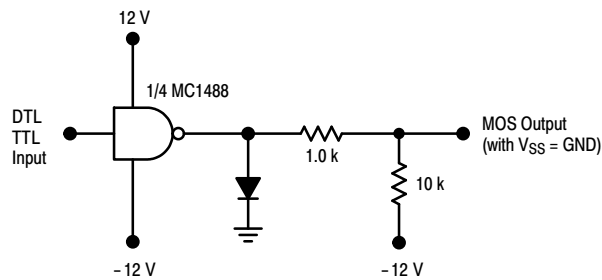

Figure 16. DTL/TTL-to-MOS Translator
1. Output Current Limiting – this enables the circuit designer to define the output voltage levels independent of power supplies and can be accomplished by diode clamping of the output pins. Figure 16 shows the MC1488 used as a DTL to MOS translator where the high level voltage output is clamped one diode above ground. The resistor divider shown is used to reduce the output voltage below the 300 mV above ground MOS input level limit.